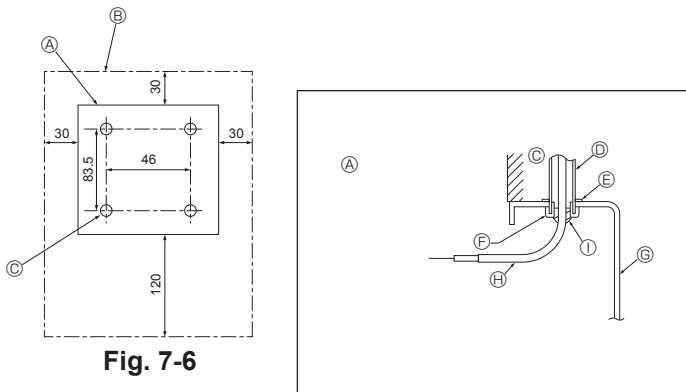

Fig. 7-6
- (1) Select an installing position for the remote controller. (Fig. 7-6)